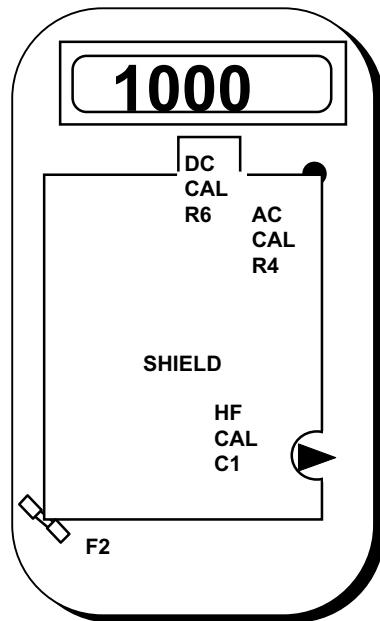

Figure 1. Adjustment locations.
- (4) Set calibrator output to minimum and disconnect equipment setup.
b. Adjustment. Set calibrator output for 190.0 mV and adjust DC CAL R6 (fig. 1) until TI indicates 190.0 (R).
- (1) Set calibrator for an output amplitude of 190 mV at an output frequency of 45 Hz and adjust **AC CAL R4** (fig. 1) for a TI indication of 190.0 (R).
- (2) Set calibrator for an output amplitude of 1.9 V at an output frequency of 5 kHz and adjust **HF CAL C1** (fig. 1) for a TI indication of 1.900 (R).